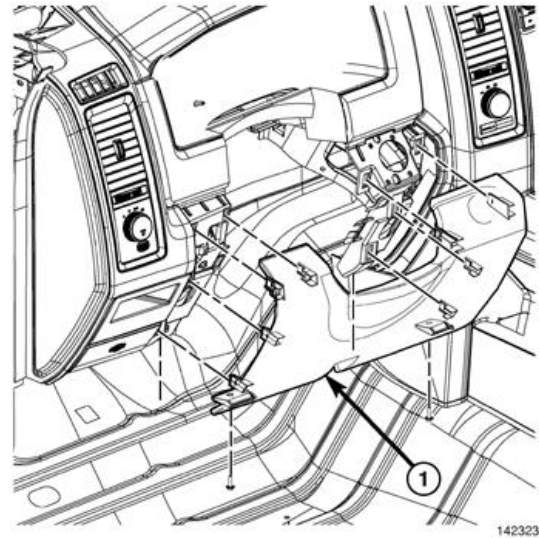

Figure 11 – Steering Column Opening Cover
21. Using a trim stick C-4755 or equivalent, release the retainer clips that secure the steering column opening cover (1) to the instrument panel and remove the cover (Figure 11).
8. Align the retainer clips that secure the steering column opening cover (1) to the instrument panel and install the cover (Figure 11).